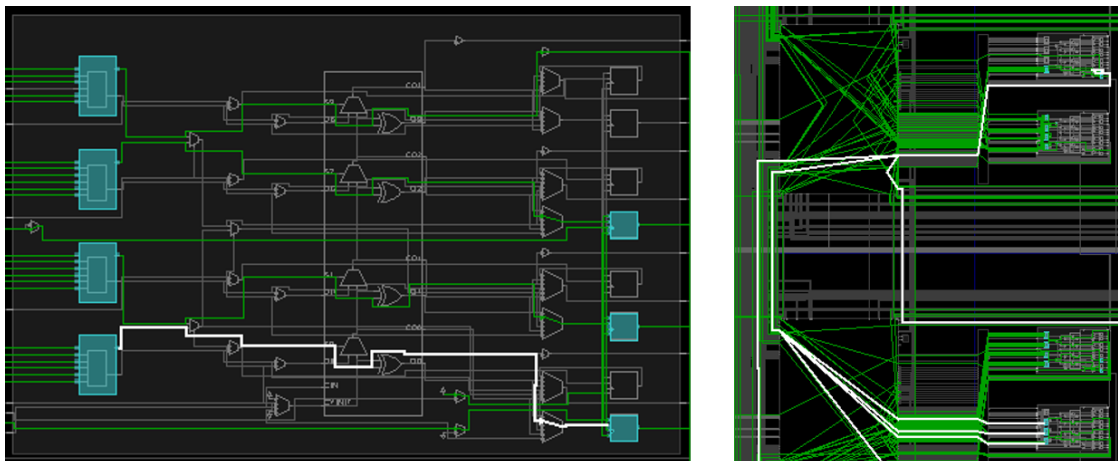

Figure 12: Example of an INTRASITE net (left) and an INTERSITE net (right).
- After a design has been placed, `CellNets` fall into one of two categories: `INTRASITE` or `INTERSITE`. Figure 12 shows an example of both types of nets. As can be seen, `INTRASITE` nets do not cross `Site` boundaries while `INTERSITE` nets stretch across multiple `Sites`. These types of nets are handled differently during routing. To determine if a `CellNet` is an `INTRASITE` net, the method call `CellNet.isIntrasite()` can be used.